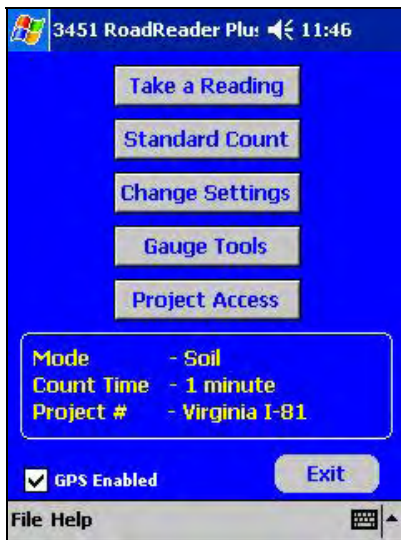
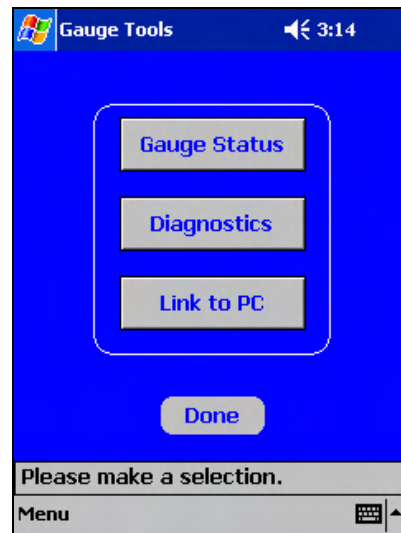

Figure 19. RoadReader Plus Main Menu
Figure 20. Gauge Tools Menu
- A.7 The PDA displays the RoadReader Plus main menu, as shown in Figure 19. Press the **<Gauge Tools>**. The **Gauge Tools** menu shown in Figure 20 is displayed.